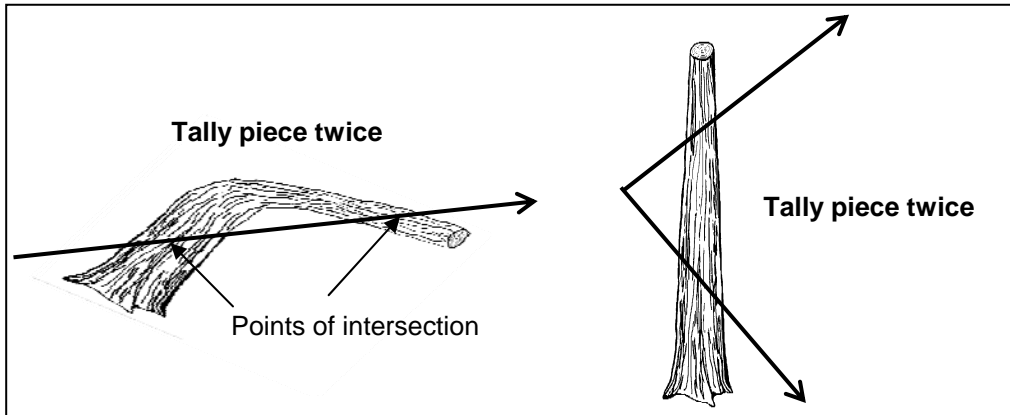

Figure 25-5. CWD tally rules: intersections.
7. If the central longitudinal axis of a piece is intersected more than once on a transect line or if it is intersected by two transect lines, tally the piece each time it is intersected (uncommon situation, see fig. 25-5).